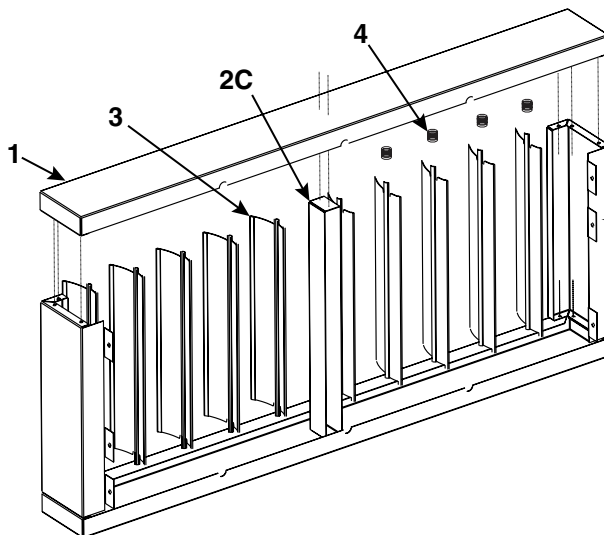

Figure 32. Vertical Louver Assembly—RA and RAD Models, Unit Sizes 150 and 250 (Refer to Table 23)
- The vertical louver assembly for RA and RAD models—unit sizes 150 and 250—is shown in Figure 32.